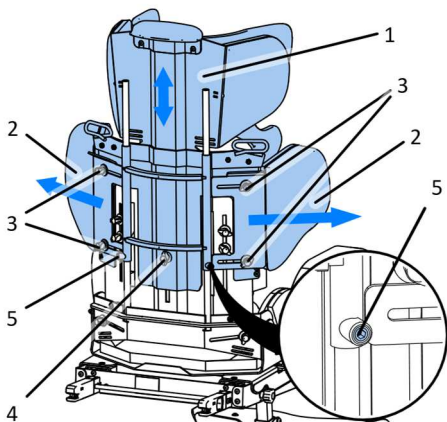

Fig. 16
7.2 Backrest height adjustment (Fig. 16)